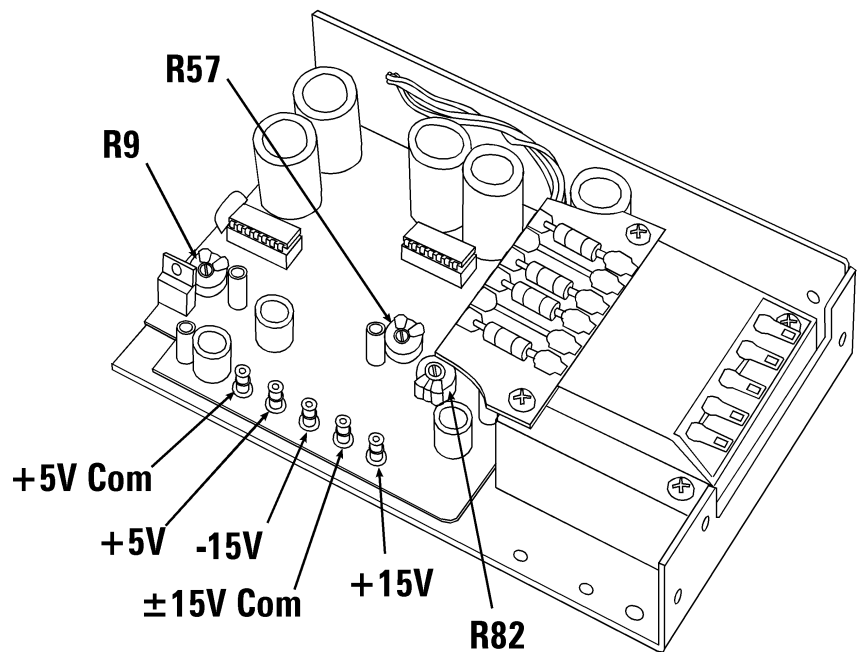

Figure 7.2. Power Supply Adjustment Potentiometers.
4. Refer to Figure 7.2 to locate screwdriver potentiometer settings R9, R57, and R82 for the DC Power Supply. It is located immediately below the oscillator drive electronics.